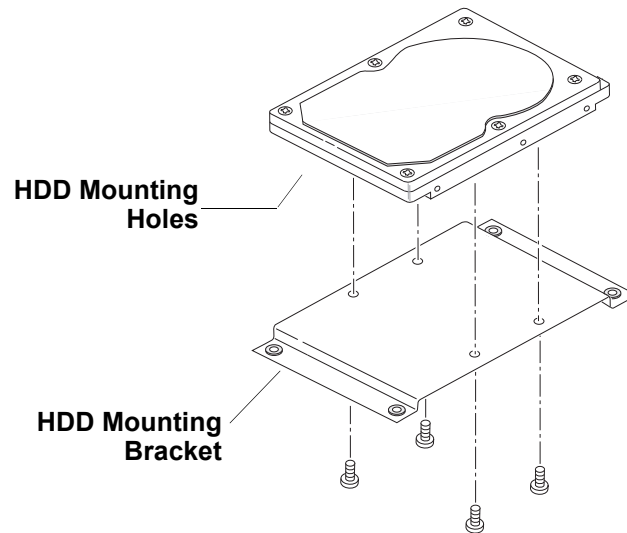

Figure 2-3. Exploded View of HDD and Bracket
3. Remove the mounting bracket from the HDD. See Figure 2-3.
1. Align the mounting holes on the HDD with the holes on the drive bracket as shown in Figure 2-3 on page 14.